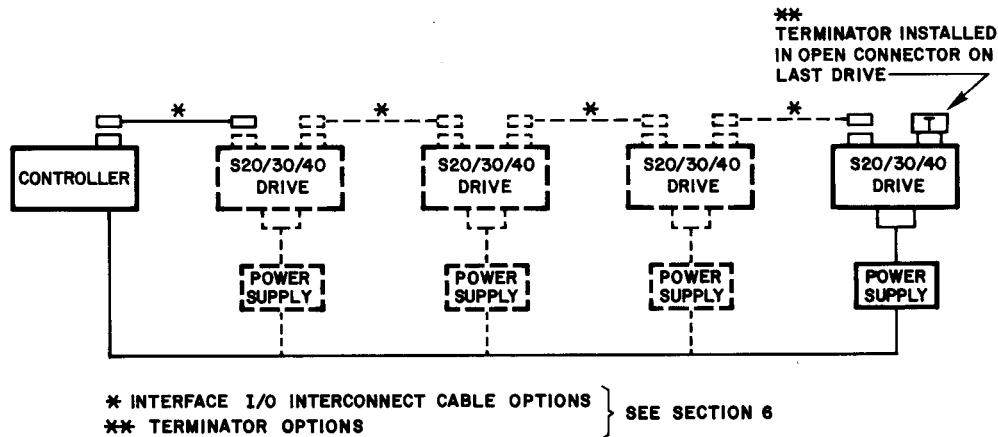

Figure 2-8 DISK DRIVE DAISY CHAIN INTERCONNECT AND TERMINATOR SCHEME
Figure 2-8 illustrates the typical scheme for connecting one to four drives to one controller, where more than one is referred to as a daisy chain system. Referring to Figure 2-5, it may be seen that both pin (M) and socket (F) connectors are available on the rear panel of the drive. The option schedule in Section 6 lists F/F, M/M and F/M styles of cables as well as both M and F contact terminators. The user thus has